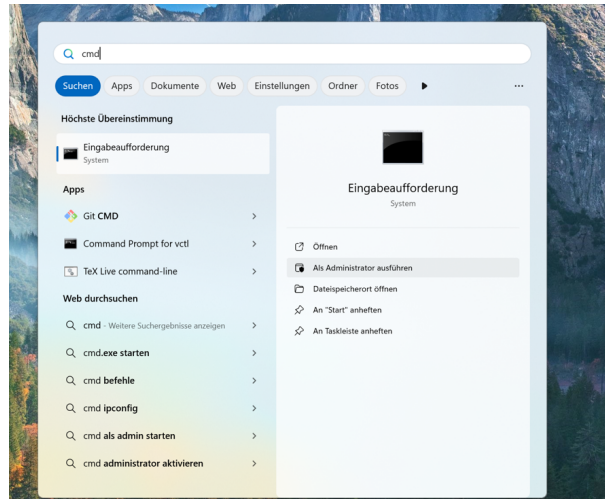

Figure 2.12.: Command Prompt with Administrator Privileges
1. **Open Command Prompt with Administrator Privileges:** Press `Win + S` and search for `cmd`, click on `Command Prompt` and select `Run as Administrator` as seen in Figure 2.12